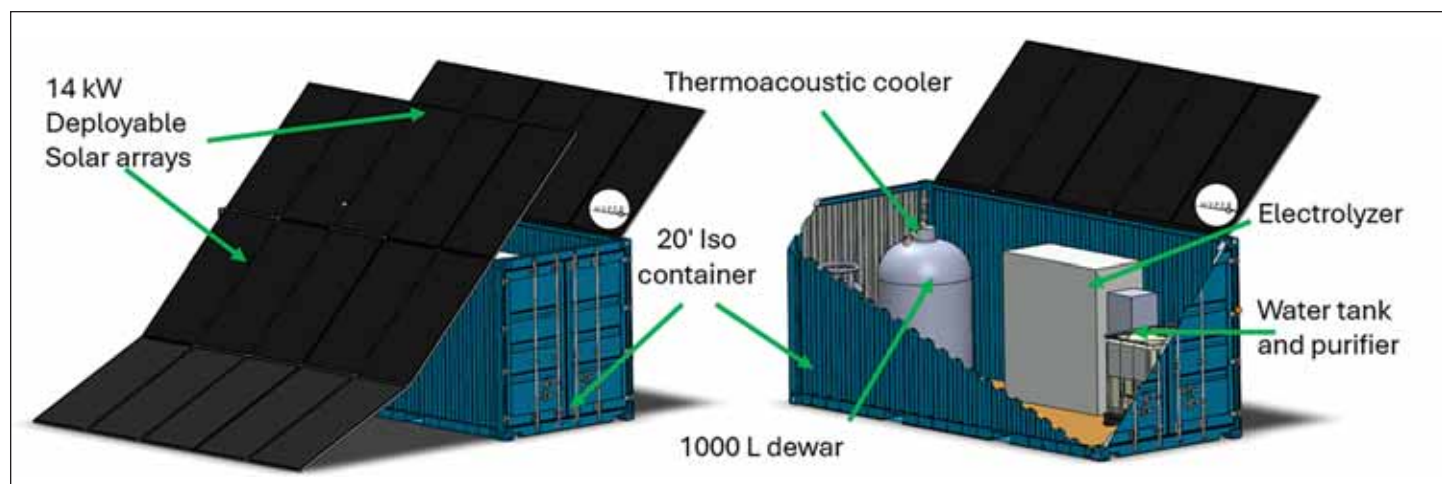

Figure 1: Conceptual rendering for a solar-power driven thermoacoustic cooler for hydrogen liquefaction and zero-boiloff storage. Credit: J. Leachman
3. High-efficiency cryocoolers – The moment someone realizes a cryocooler with no moving parts, no rare-earth regenerator materials and Second Law efficiencies approaching base-load liquefiers, every liquid hydrogen tank in the country can become a liquefier with no boiloff losses, operable from solar power (see Figure 1 for a conceptual rendering).